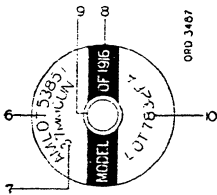

FIGURE 6.—Marking of complete round of low-explosive ammunition
(4) *Marking.*—The low-explosive shell is painted vermilion (red), and the complete round marked as shown in Figure 6.